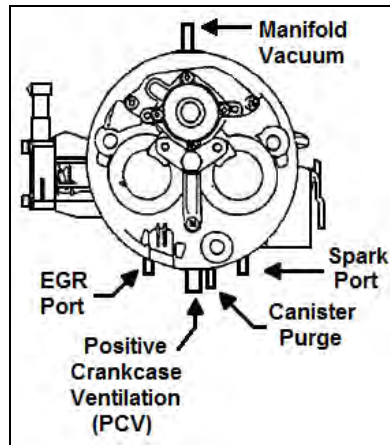

Figure 9: Vacuum Line Connections
2. Connect all of the vacuum lines that were labeled during the disassembly of the stock fuel system to the throttle body (Fig. 9).